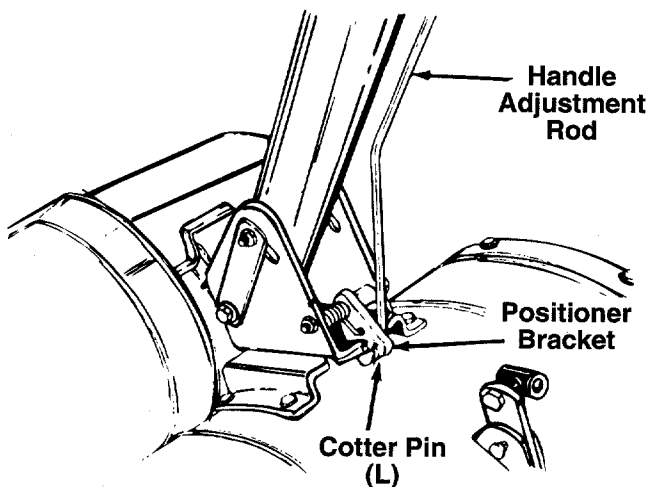

FIGURE 13.
23. Insert the hooked end of handle adjustment rod into the positioner bracket as shown in figure 13. Secure with cotter pin (L). Secure by bending ends of pin in opposite directions.